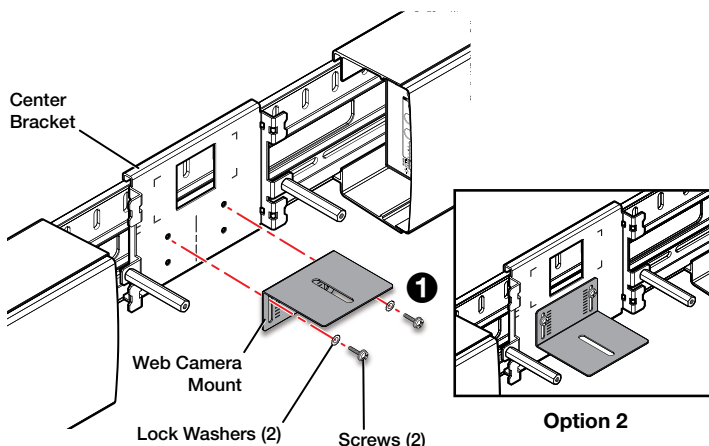

Figure 16. Inverting the Webcam Shelf
1. Install the webcam shelf by attaching it to the center bracket using two screws going through the two vertical slots on the shelf and into two mounting holes in the bracket. There are two pairs of available holes in the bracket. The shelf height can be adjusted by positioning the screws in the shelf slots (see figure 16, **1**).
NOTE: For cameras that require more overhead clearance, the webcam shelf can be inverted (see figure 16, Option 2).